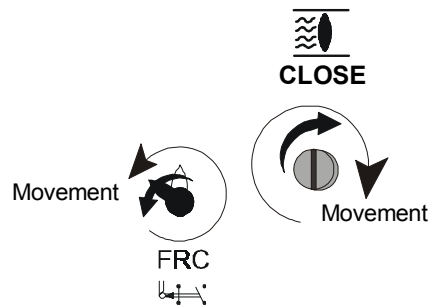

Fig. 8.4.2
- ENGAGE PUSHER SHAFT: Turn back selector 'PUSHER'. Check that go back to its initial position (Figure 8.4.2). **This point is fundamental for the correct setting of the limit switches: Ensure that PUSHER shaft is correctly engaged.**